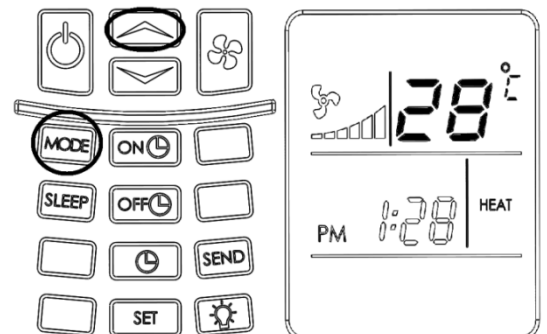

Figure 22 - Change to HEAT mode and increase SET POINT
- Set mode to HEAT, and increase the set point temperature above the room temperature. Figure 22. After the protection delay the compressor will start.